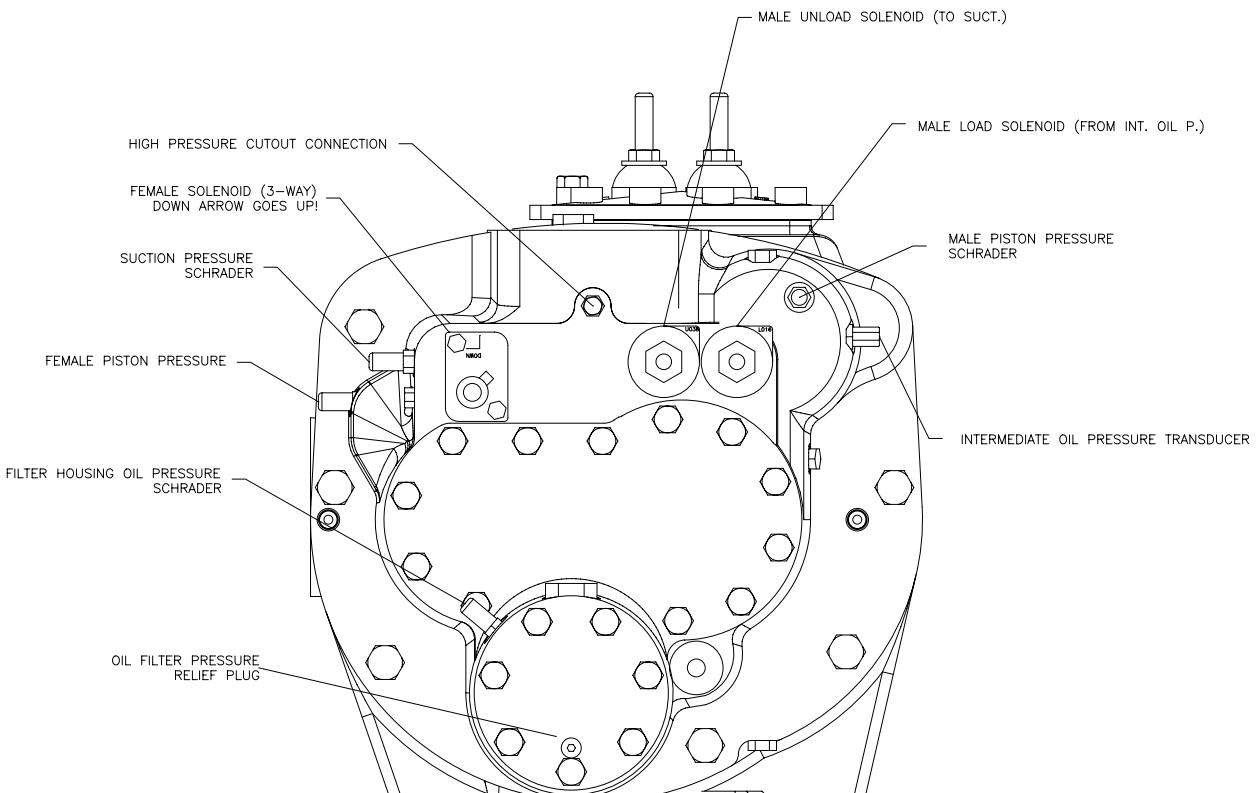

Figure 33.CHHP Compressor
- 1 Connect a manifold gauge set to the schrader valve located at the side of the piston housing. Refer to Figure 33. This schrader allows access to the back side of the step load piston and, therefore, will allow direct measurement of the pressure that actuates the step load valve.
- 3 Connect a manifold gauge set to the schrader valve located at the end of the piston housing. This schrader allows access to the pressure behind the male piston. Refer to Figure 33.